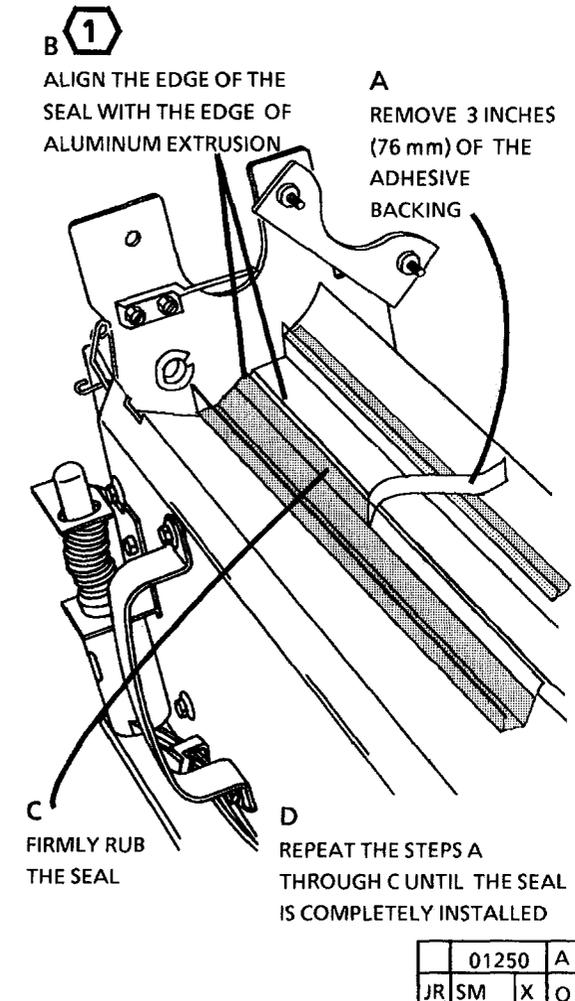

Figure 2. Install the Contamination Seal
2. (FIGURE 2): INSTALL THE CONTAMINATION SEAL.